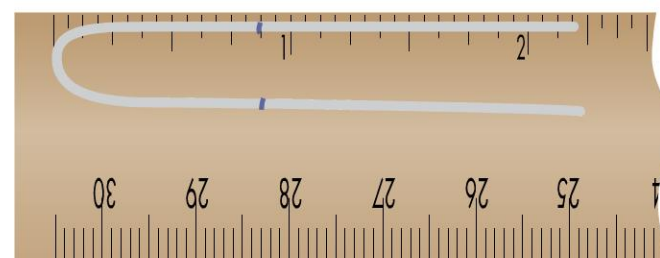

figure 1
**Measuring** from the outside of the center loop, mark the wire at ⅞" (2.2 cm) (Figure 1). The illustration shows the measurement taken from the outside of the wire, not the inside.